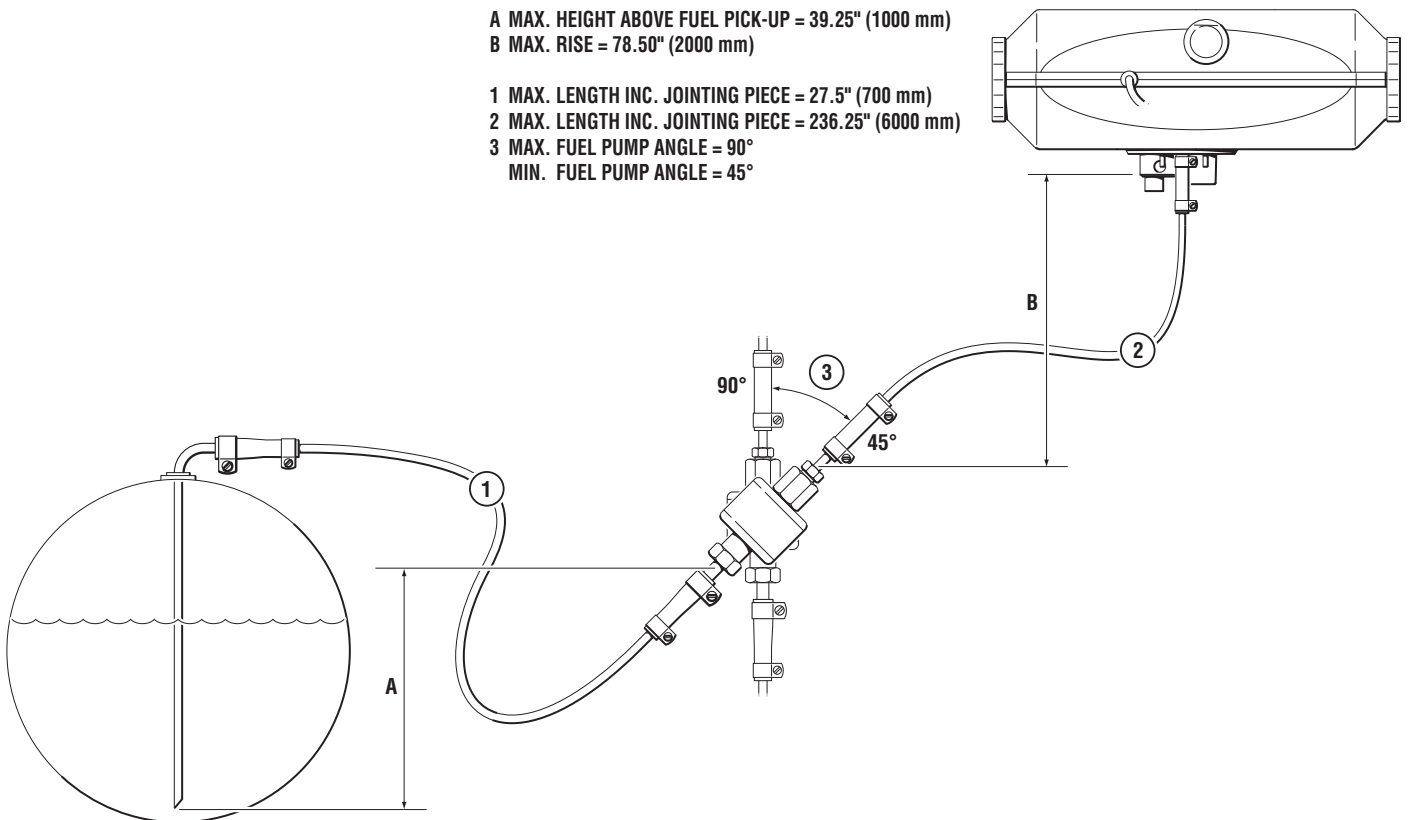

Figure 17. Fuel System.
- Mount the fuel pump in a vertical position and within 27.5" (700 mm) of the fuel pickup using the supplied mounting hardware (refer to figure 17).